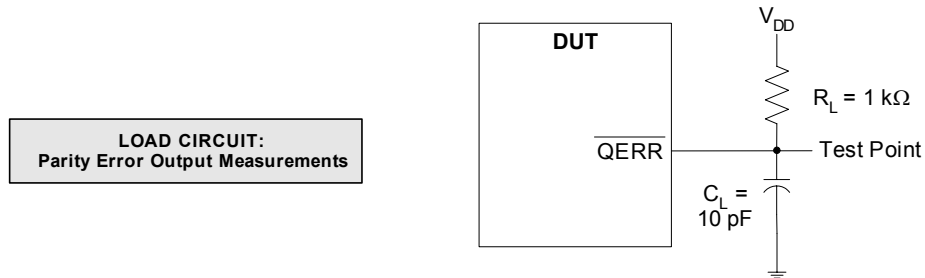

Figure 10
- ⁵ See Figures 10 through 13.